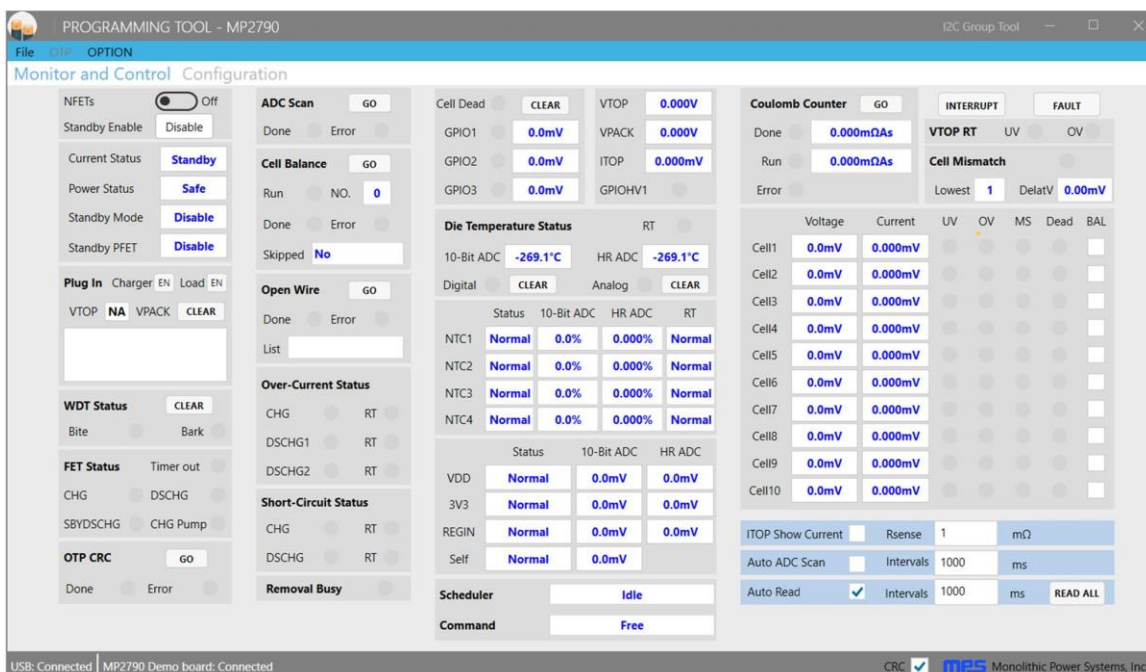

Figure 11: USB and MP2790 Demo Board Statuses Show Successful Connection
- If the connection is successful, the USB and MP2790 demo board statuses are listed as “Connected” at the bottom left of the screen (see Figure 11).